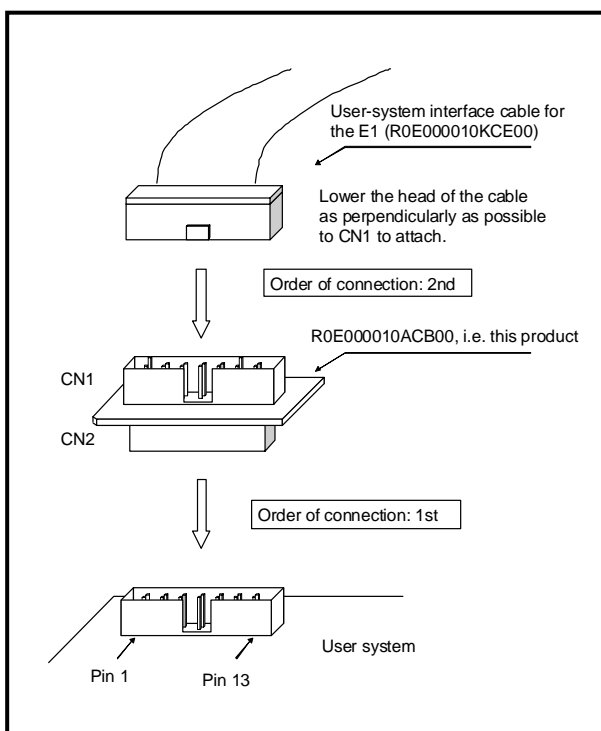

Figure 2 Usage of the R0E000010ACB00
4. Usage (See Figure 2)
The R0E000010ACB00 is connected between the user-system interface cable (for the E1) and a 14-pin connector on the user system as shown in Figure 2.